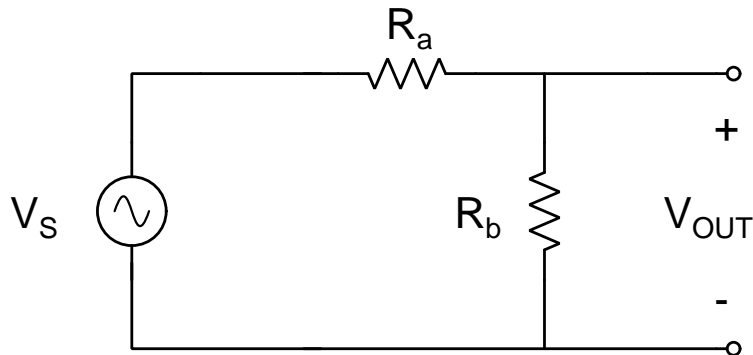

Figure 1: The circuit under test (CUT) is an ideal resistor divider circuit.
In this lab you are to determine the voltage ratio,  $V_{OUT}/V_S$ , produced by the voltage divider with resistors  $R_a$  and  $R_b$  shown in Figure 1.
1. Use the Keystone E4980A LCR Meter to measure the capacitance and dissipation factor (DF) of the 1X probes (cables with a BNC connector and alligator clips) and the scope probes (cables with a BNC connector and probe clip) at frequencies between 20 Hz and 300 kHz. Make sure the black switch on the scope probe is set to the 1X position. Record these values in a table in your notebook. You will use them for the rest of the semester.
4. For each of the three pairs of resistors, place two resistors with the same value on the bread-board to make a series circuit as shown in Figure 1. If the resistors have slightly different values, make sure you keep track of which resistor is which.